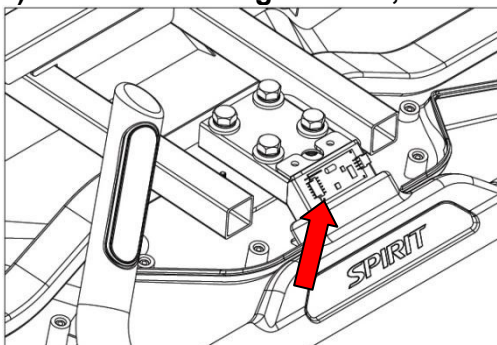

Figure 4.9.2
7) As shown in Figure 4.9.2, remove the 12P control cable connector and remove the core module wire